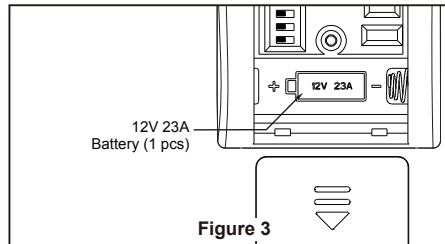

Figure 3
- ☐ 3. To make fan operational, install 23A/12V battery (included) in hand-held remote transmitter, with fan power off. Then follow the remote code setting process. (If not used for long periods of time, remove battery to prevent damage to transmitter). Store the remote away from excessive heat or humidity. (Figure 3)